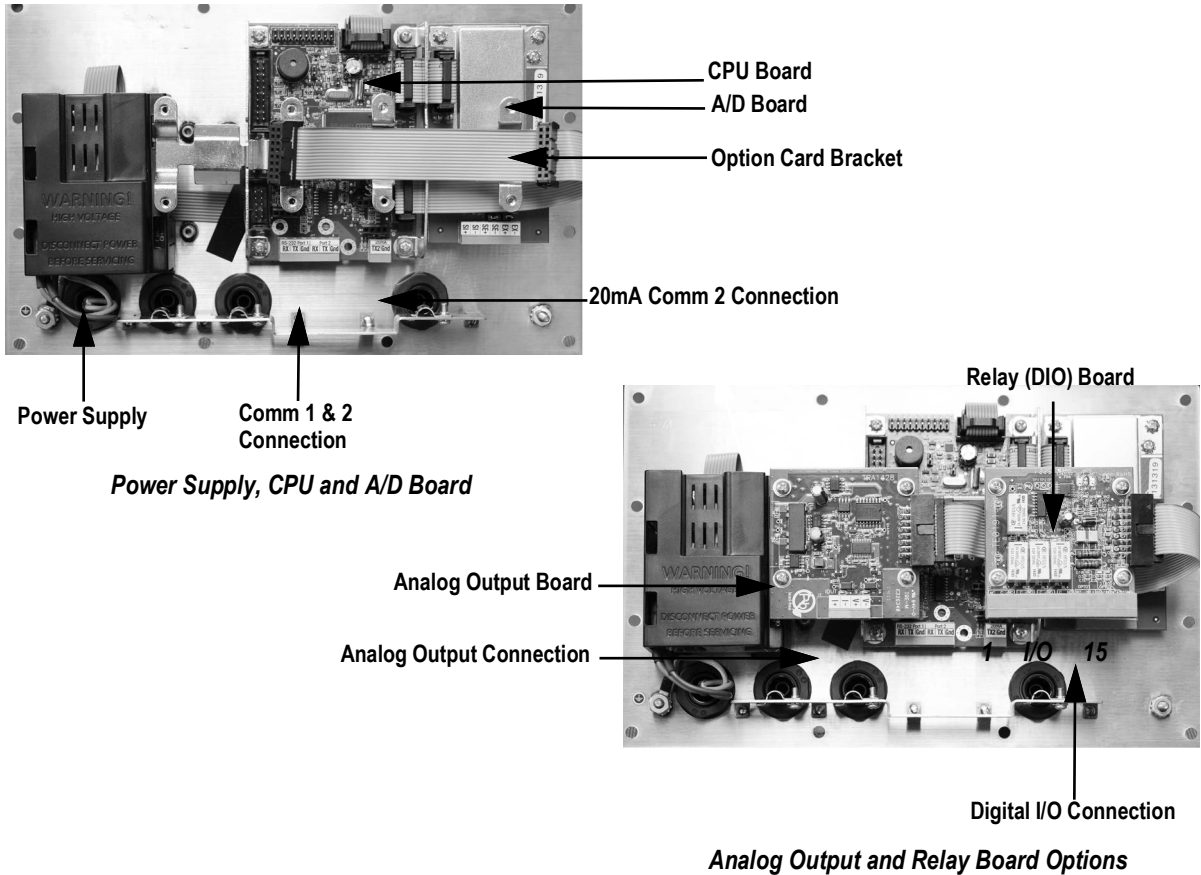

Figure 2-5. 480 Board Options
3. If not already in place, install an option card bracket (PN 131340), See Figure 2-5 on page 20.
4. Mount the analog output module or relay card on the option card bracket. See Figure 2-5 on page 20.